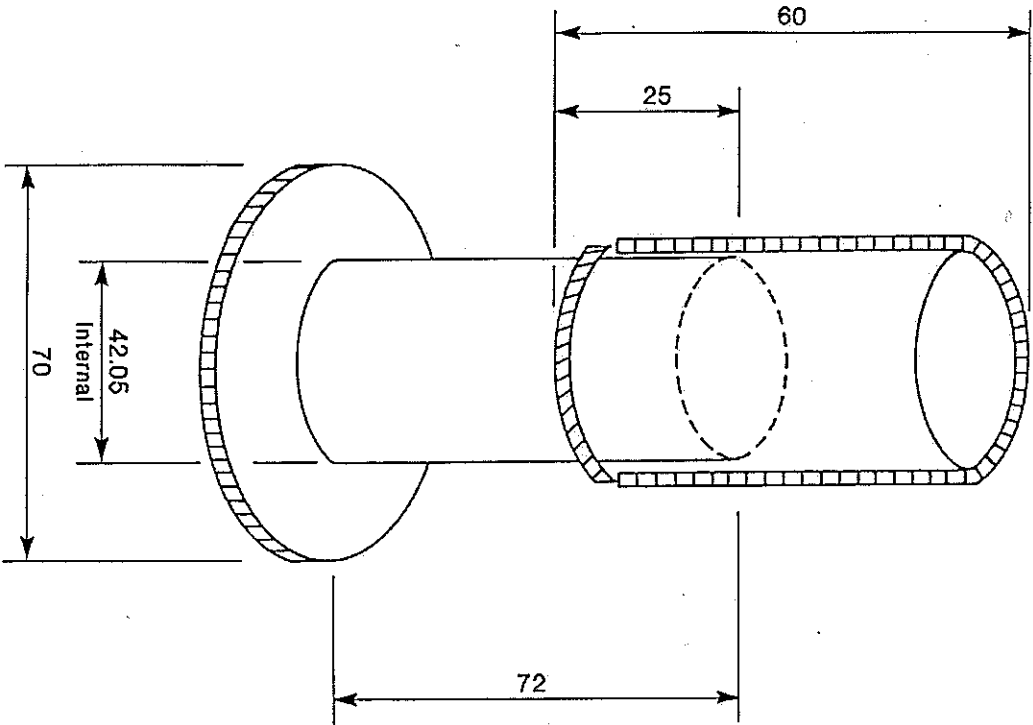

Figure 1. The 100.0 mL stainless steel cylinder.
2. Stainless steel cylinder with detachable top, as shown in Figure 1. The volume of the lower cylinder is 100.0 ± 0.5 mL.